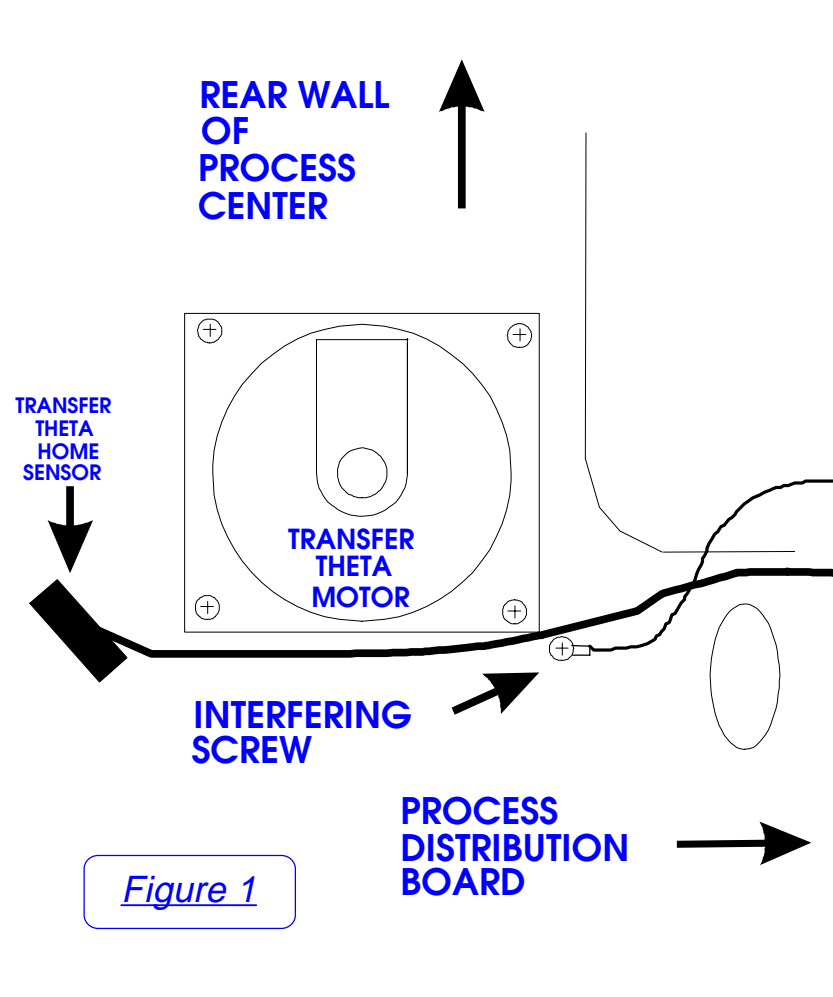

Figure 1
Some instruments have a screw holding the ground wire for the Transfer Theta Motor that is too long. This mechanical interference can lead to errors when loading and unloading RVs. See Figure 1 on page 3 for the location of this screw. Note that Process Distribution Board Shroud
6. Remove the old screw (interfering screw as shown in Figure 1).
To address confusion related to the identification of a properly configured CPU board an illustration, Figure 1, was added. All TSB Text related to CPU identification text has been changed to refer the FIGURE 1.